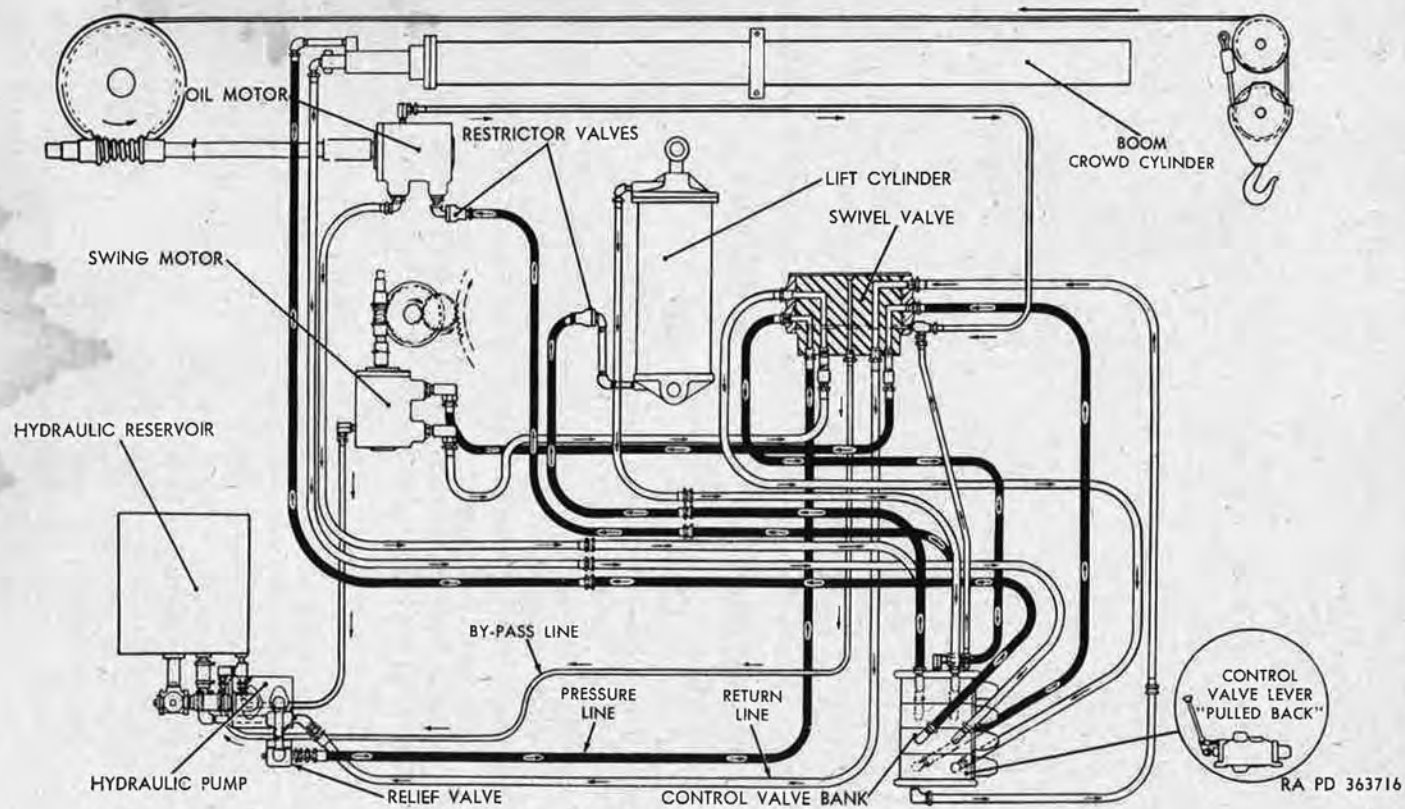

Figure 315. Crane hydraulic system M246.
- (14) *Hydraulic system.* The wrecker crane hydraulic system (fig. 315) is completely sealed except for the breather-type